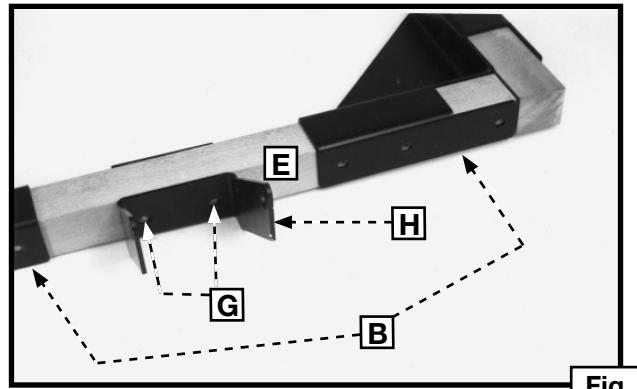

Fig. 8
8. With the end and side boards in place (B) Fig. 8, place the pivot bracket (H) at the end of the base, midway between the brackets (B) where the foot pedal and caster assembly will be located.
NOTE: Position the pivot bracket (H) Fig. 8 directly opposite the two wheels (Fig. 12). Mark the location of the two places (G) Fig. 8 where you will drill the 7/16" diameter through-holes to mount the pivot bracket (H).